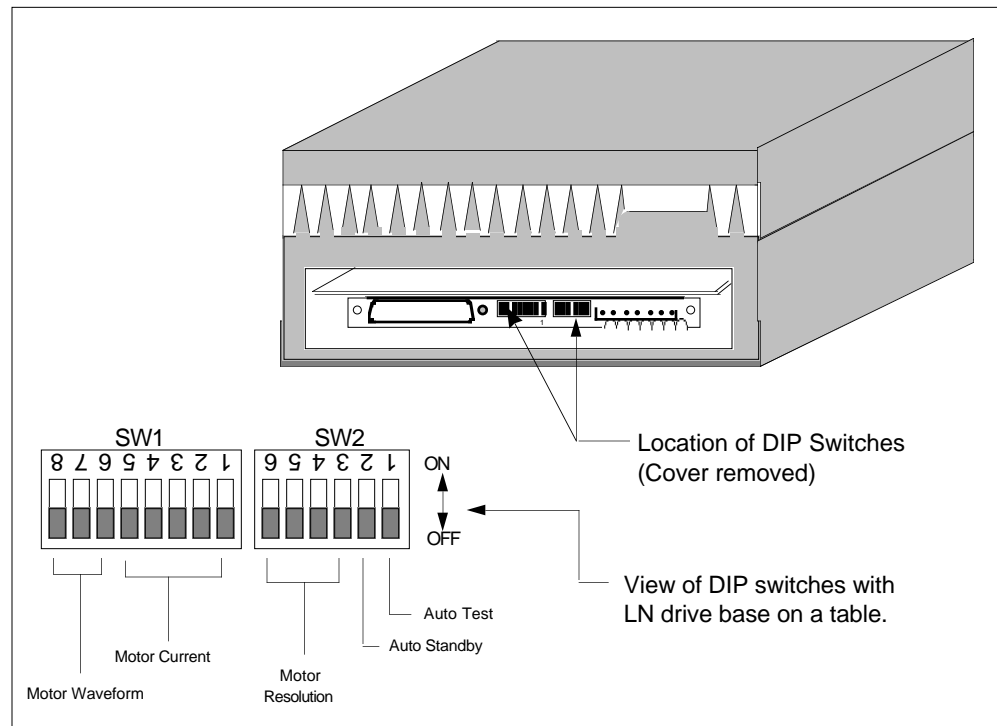

Figure 2-2. DIP Switch Locations
The LN Drive has two sets of DIP switches. The first set of switches will be referred to as SW1 and the second set as SW2. The individual switch will be preceded by the # symbol. Hence, the third switch on SW1 will be referred to as SW1-#3, while the third switch on SW2 will be referred to as SW2-#3. Figure 2-2 shows the location of the LN Drive's DIP switches.
- ① Remove the panel that covers the DIP switches (refer to Figure 2-2).
- ② Set the motor current for your Compumotor motor using Table 2-2. SW1-#5 thru SW1-#1 **motor current** (refer to Figure 2-2 for the location of the SW1). Make the required adjustments to match the drive and motor types that you are using.
- ③ To test the system, you will use the Automatic Test function. DIP switch SW2-#1 controls this function (refer to Figure 2-2 for the location of the SW2). Turn SW2-#1 on to enable the function. The Automatic Test function rotates the motor in an alternating move of slightly less than 6 revolutions at 1 rps.
- ④ After you have properly set motor current (SW1-#5 thru SW1-#1) and the Automatic Test function (SW2-#1), screw the plate that covers the DIP switches back onto the drive. **Do not change any other DIP switch settings.**
- ⑤ Replace the cover.
② Attaching the Motor